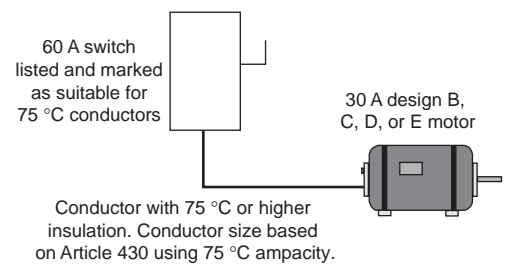

Figure 6: Conductors for Specific Motor Applications
- d. Conductors for specific motor applications (see Figure 6). This permission is specific to Design B, C, D, or E motors because those motors are temperature evaluated with conductors based on 75 °C ampacity according to NEMA MG-2 (Safety Standard for Construction and Guide for Selection, Installation, and Use of Electric Motors and Generators).